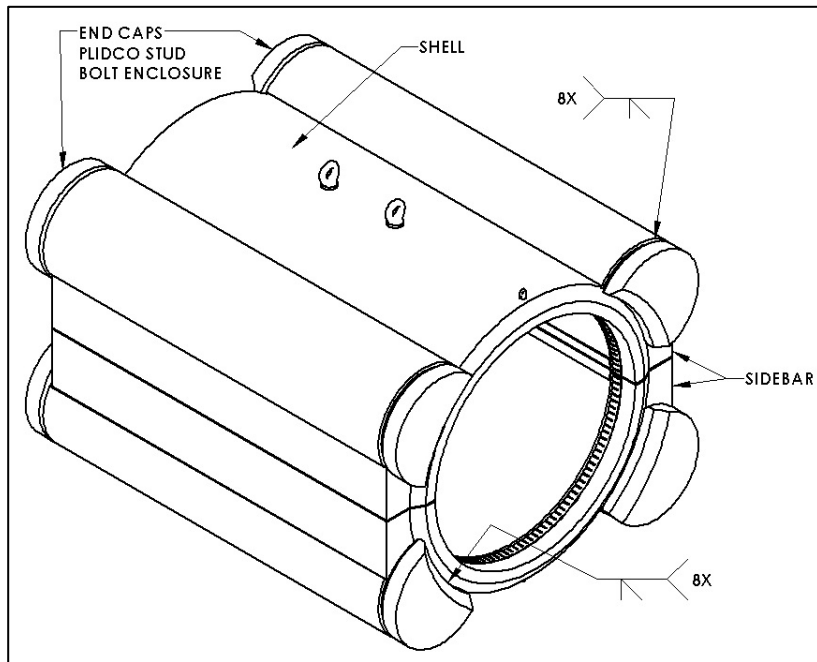

Figure 2
- After the Pipe Sections have been welded to the sidebar and shell, the End Caps can be fit up and welded, as shown below in Figure 2.